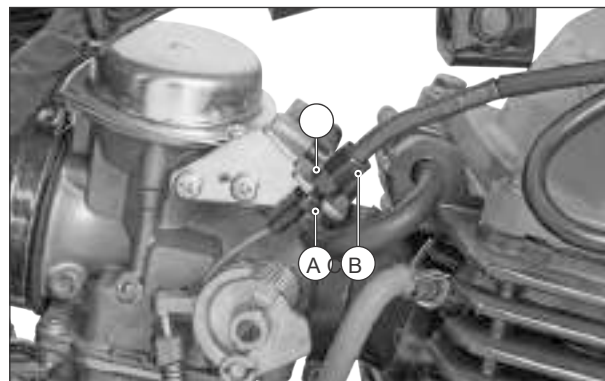

Fig. 2.72
If the measured free play is more or less, loosen the lock nut (A) and turn the adjuster nut (B) 'in' or 'out' until the specified play is obtained. And then tighten the lock nut (A), while holding the cable adjuster (C). (Fig. 2.72)